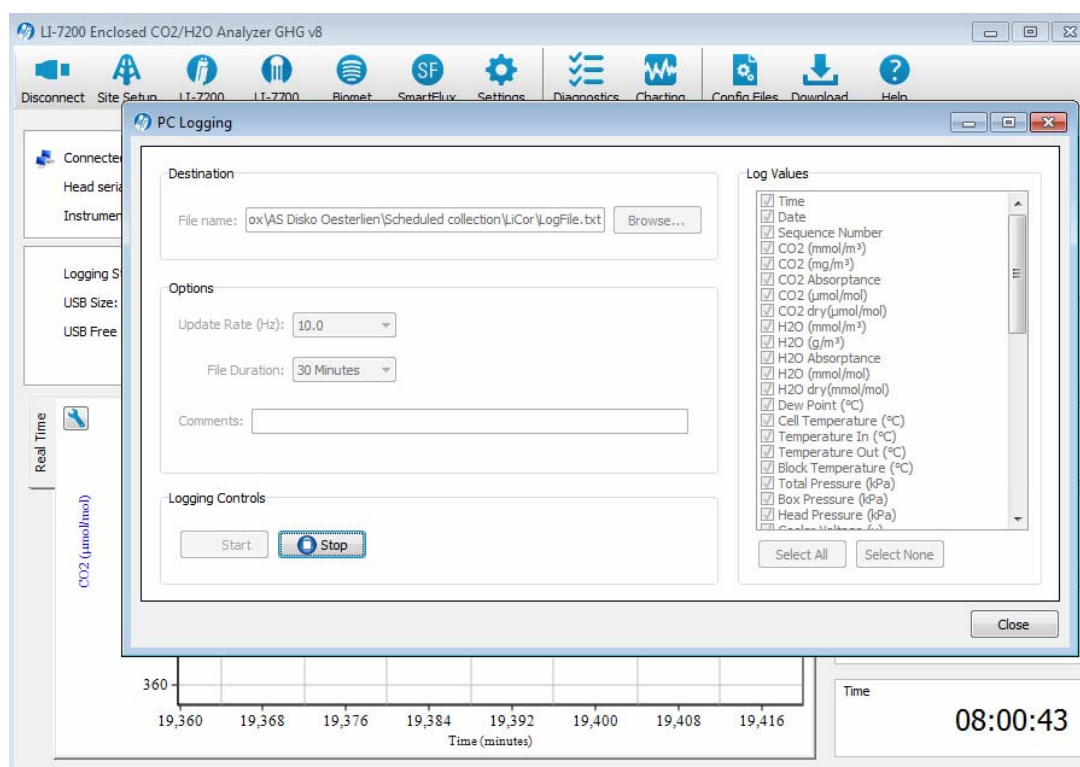

Figure 3.8 Licor window with correct settings for PC logging
1. In the LICOR software on the computer in the garage, go to the LI-7200 icon in the main menu and find PC logging (Figure 3.8). Ensure that the settings are correct.